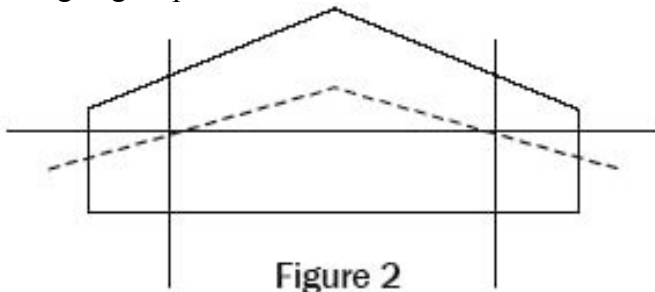

Figure 2
**Figure 2** shows a wing with a leading edge taper so the chord at the root is considerably larger than the chord at the tip, causing the “mean” chord to be somewhere in between the two. To figure the MAC, measure back 25-33% at the root and mark it. Then measure 25-33% at the tip and mark that. Connect the two marks with a dotted line. Now, measure the wingspan from the center of the wing to the tip (include the part of the wing that is covered by the fuselage). Go half that distance to get the mean point on the wing. Do the same for the other side of the wing and draw a line between the two points. Now you have the balance point of the airplane. Notice that the balance point at the tip is nearly at the leading edge of the wing so it is critical that you mark where the balance point is. If you just measure back 25% from the leading edge at the tip, the airplane will be nose-heavy. Although **Figure 2** only shows a tapered leading edge, this method also works with trailing edge taper and even wings with both leading and trailing edge taper.